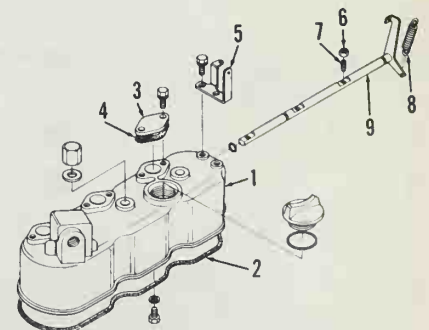

Fig. K2-5 — View of valve cover and compression release components.
All models are equipped with a compression release which holds exhaust valves open slightly when compression release lever (9—Fig. K2-5) is rotated. To adjust compression release, rotate engine crankshaft so piston in cylinder being adjusted is at top dead center on compression. Remove cover (3), loosen locknut (6) and back out adjusting screw (7). Rotate compression release lever to engaged position. Turn adjusting screw (7) in until it contacts exhaust rocker arm, then turn screw an additional 1½ turns. Tighten locknut and adjust remaining cylinders. Check operation of